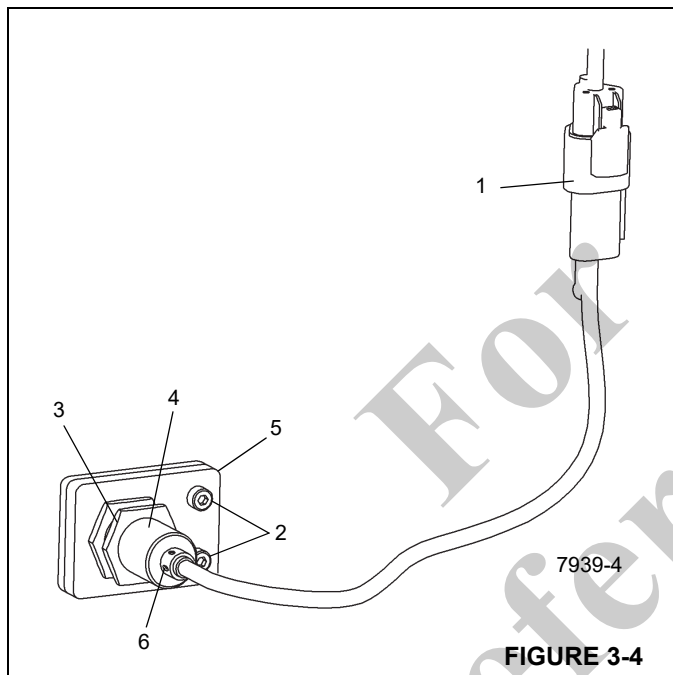

FIGURE 3-4
1. Disconnect electrical connector (1, Figure 3-4) at switch.
2. Remove the two screws (2, Figure 3-4) securing the mounting bracket/switch assembly to the stabilizer box.
3. Loosen jam nut (3, Figure 3-4) securing switch (4) to mounting bracket; remove switch.
2. Thread switch (4, Figure 3-4) into mounting bracket (5) so that face of switch protrudes 10 mm through bracket.
3. Using two screws (2, Figure 3-4), secure mounting bracket/switch assembly to stabilizer box.
4. Tighten jam nut (3, Figure 3-4) on switch.
5. Connect electrical connector (1, Figure 3-4) to switch.
6. With power on and stabilizer beam fully extended, ensure LED (6, Figure 3-4) on proximity switch illuminates; retract stabilizer beam and ensure LED is not illuminated.